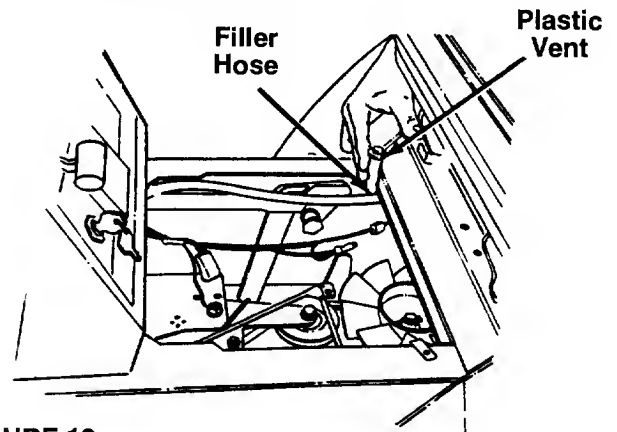

FIGURE 19.
7. Clean around filler hose (inside right frame) and bend hose upward. See figure 19.